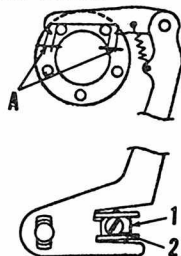

Fig. Y10-13—Shift arm clearance is adjusted by turning eccentric screw (2). Clearance (A) should be equal.
Gear shift arm to pin clearance (A—Fig. Y10-13) should be equal. Clearance is adjusted by loosening lock nut (1) and turning eccentric screw (2).